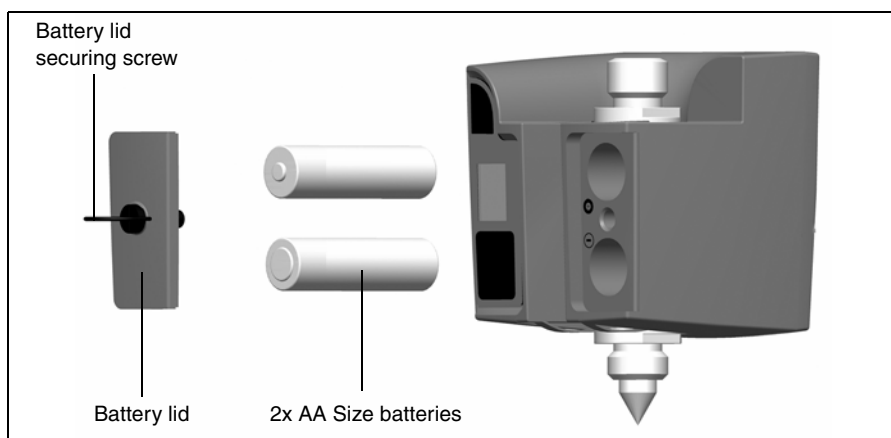

Figure 7.67 Target ID battery change
4. Fit the battery lid and then secure it by turning the screw a quarter of a turn clockwise. See figure 7.67